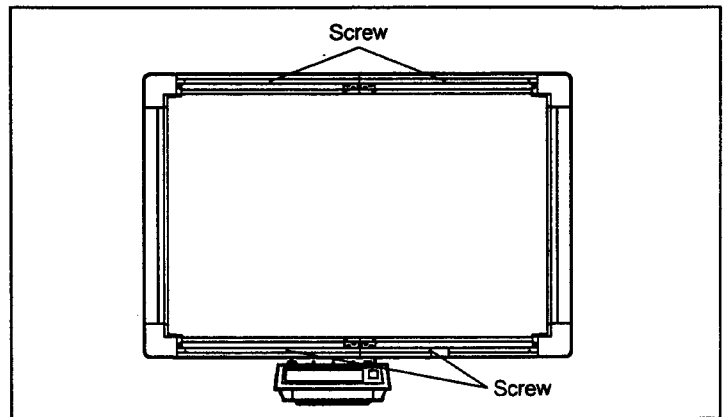

Fig. 5-4
- 2) Remove 4 screws, as shown in Fig. 5-4, and remove the screen (lift and pull to remove).